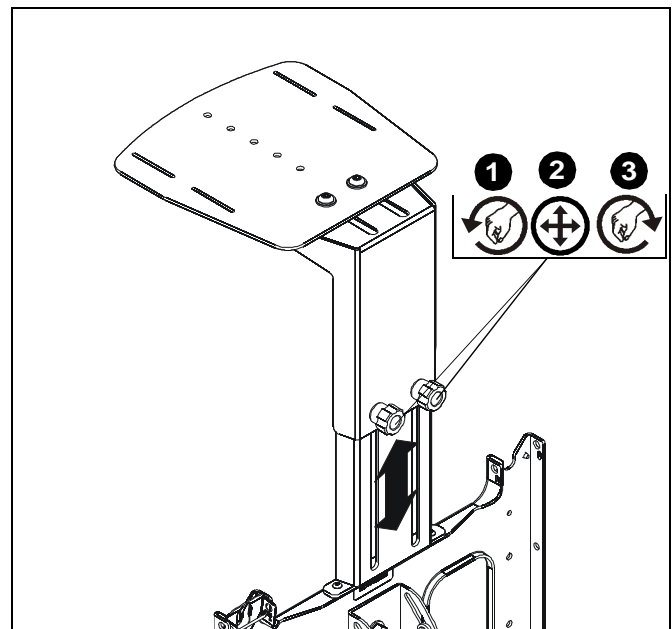

Figure 6
1. Loosen two adjustment knobs on the back of the video conferencing shelf (A). (See Figure 6)
2. Raise or lower shelf to desired height. (See Figure 6)
3. Tighten two adjustment knobs on the back of the shelf until mount is secure. (See Figure 6)